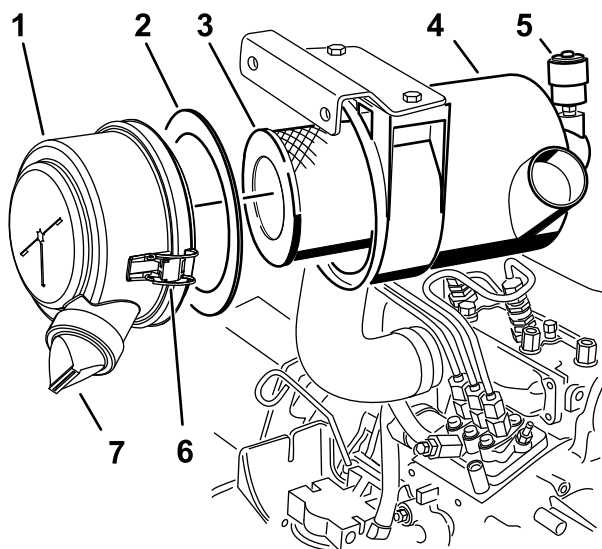

Figure 30
3. Service the air-cleaner filter when the air-cleaner indicator shows red or every 400 hours and service it more frequently in extremely dusty or dirty conditions (Figure 30).